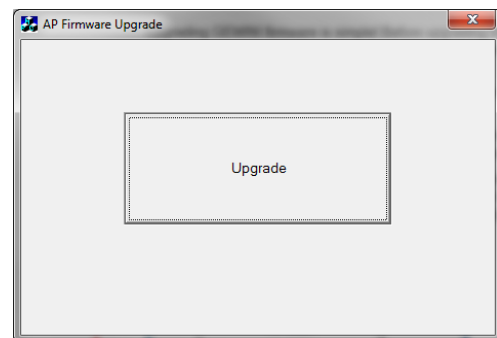

Figure 65
3. Extract the “YS-X4-X4V2-X4P-Gemini-M-S” firmware upgrade archive and double-click “UpgradAP(En)-TOOL.exe” and the window “AP Firmware upgrade” will pop up, as shown in Figure 65.